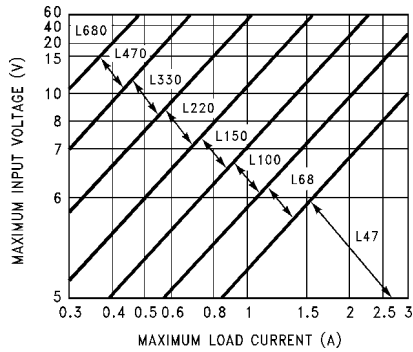
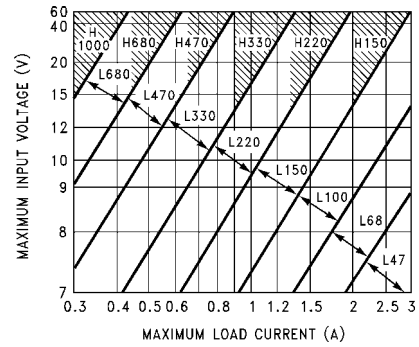
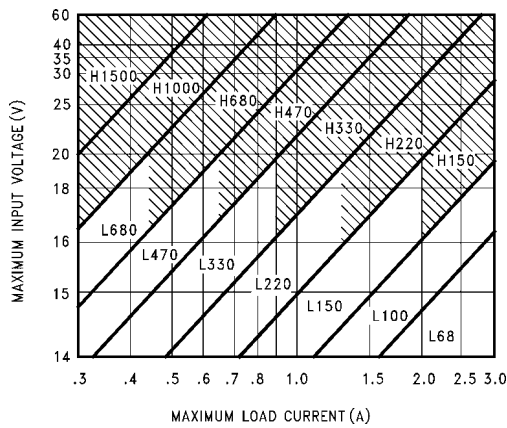
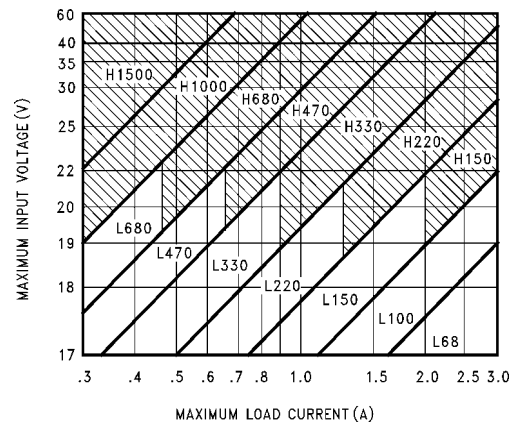

图 8-4. LM2576(HV)-3.3
图 8-5. LM2576(HV)-5.0
图 8-6. LM2576(HV)-12
图 8-7. LM2576(HV)-15
The inductor value selection guides in 图 8-4 through 图 8-8 are designed for buck regulator designs of the continuous inductor current type. When using inductor values shown in the inductor selection guide, the peak-to-peak inductor ripple current is approximately 20% to 30% of the maximum DC current. With relatively heavy load currents, the circuit operates in the continuous mode (inductor current always flowing), but under light load conditions, the circuit is forced to the discontinuous mode (inductor current falls to zero for a period of time). This discontinuous mode of operation is perfectly acceptable. For light loads (less than approximately 300 mA), it can be desirable to operate the regulator in the discontinuous mode, primarily because of the lower inductor values required for the discontinuous mode.
1. Select the correct Inductor value selection guide from 图 8-4, 图 8-5, 图 8-6, or 图 8-7. (Output voltages of 3.3 V, 5 V, 12 V or 15 V respectively). For other output voltages, see the design procedure for the adjustable version. Use the selection guide shown in 图 8-5.
- Identify the inductor value from the inductor code, and select an appropriate inductor from the table shown in Figure 8-4. Part numbers are listed for three inductor manufacturers. The inductor chosen must be rated for operation at the LM2576 switching frequency (52 kHz) and for a current rating of  $1.15 \times I_{LOAD}$ . For additional inductor information, see Section 8.1.2. Inductor value required is 100  $\mu\text{H}$  from the table in Figure 8-4. Choose AIE 415-0930, Pulse Engineering PE92108, or Renco RL2444.